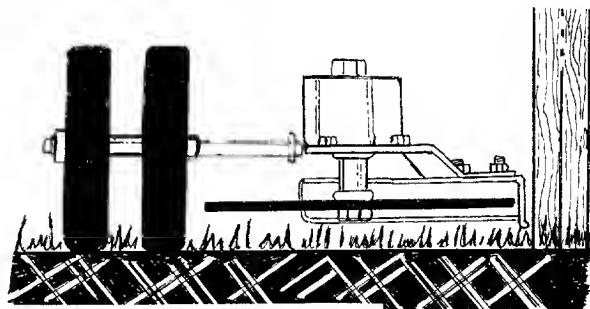

FIGURE 20
- To operate the unit as a trimmer, move the adjustment lever and rotate the cutting blade 90°. See figure 20. Move the front wheels all the way to the right, as described in the Control section.